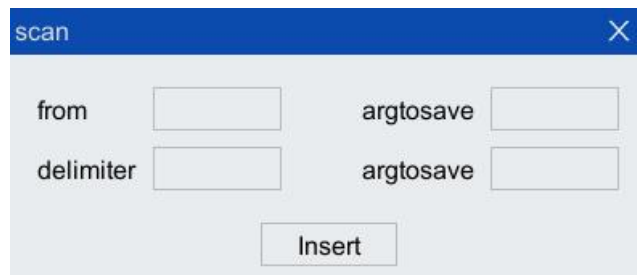

Figure 5-45 "scan" instruction configuration interface
Step1. Click "Insert Cmd> auxiliary instruction> scan" option in the toolbar of the program editor to pop up "scan" instruction interface, as shown in Figure 5-45.